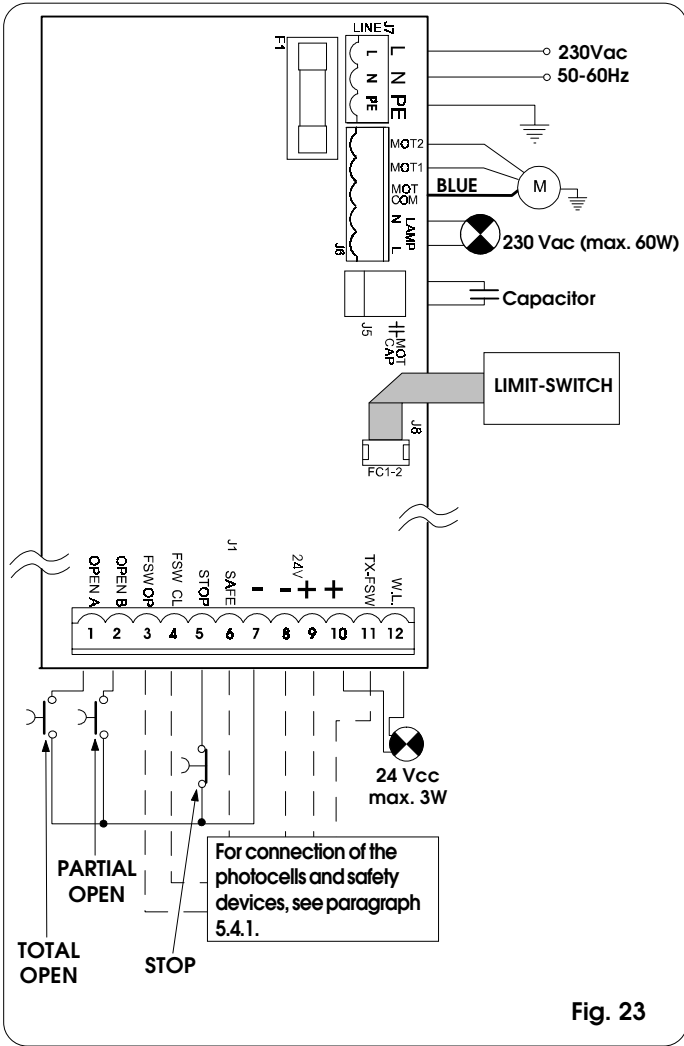

Fig. 23
**5.4.2. J7 Terminal board - Power supply (fig. 23)**
**5.4.3. J6 Terminal board - Motors and flashing lamp (fig. 23)**
**5.4.4. J1 Terminal board - Accessories (fig. 23)**